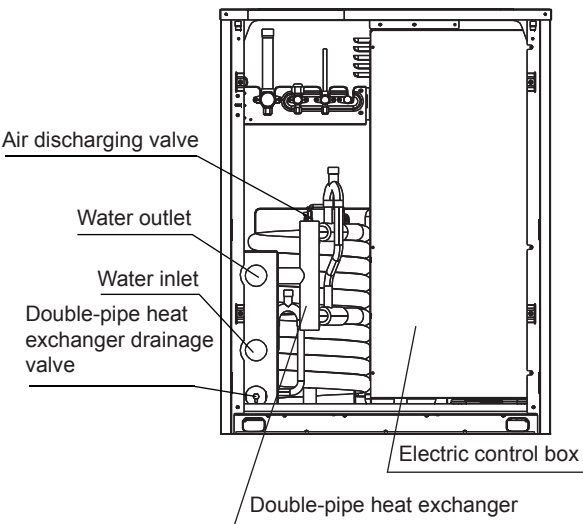
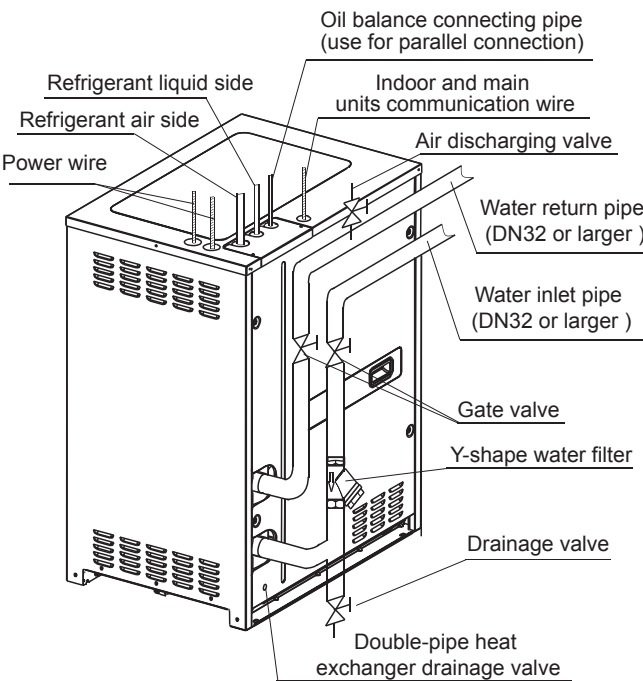

Fig.5-1
Fig.5-5 Direction schematic diagram of water system pipes
- 4) When the unit will be not used for a long time in winter, water inside the double-pipe heat exchanger and the water pipes should be drained out in case for being frozen. The water inside the double-pipe heat exchanger can be drained out by its drainage valve, the drainage valve position as Fig.5-1 display. The user can take down the front plate and open the drainage valve for water draining, and also can without taking down the front plate then use a straight screwdriver to go through the small hole in the front plate and open the drainage for water draining, the small hole position as Fig.5-5 display.